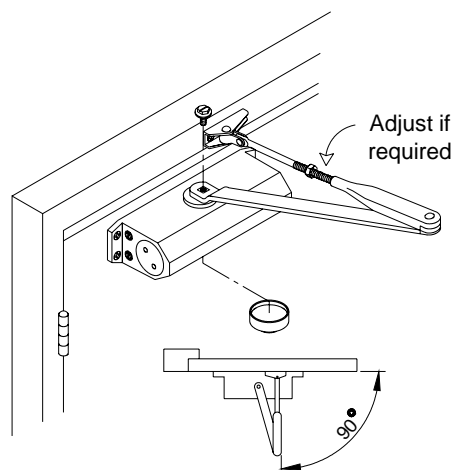

Fig. 5
6. Fit spindle cover cap to underside of closer. (See **Fig. 5**)